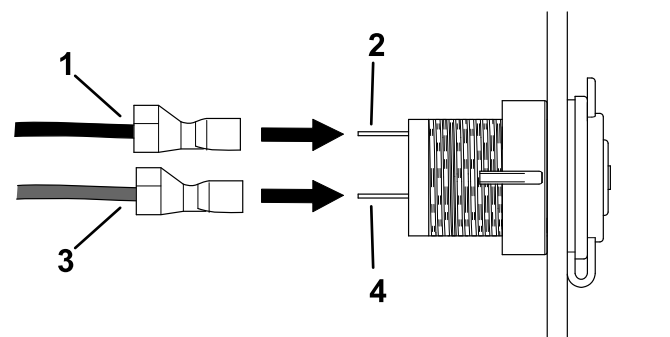

Figure 2
1. Install the post connectors from the port wire harness to the posts on the 12 V receptacle (Figure 2).